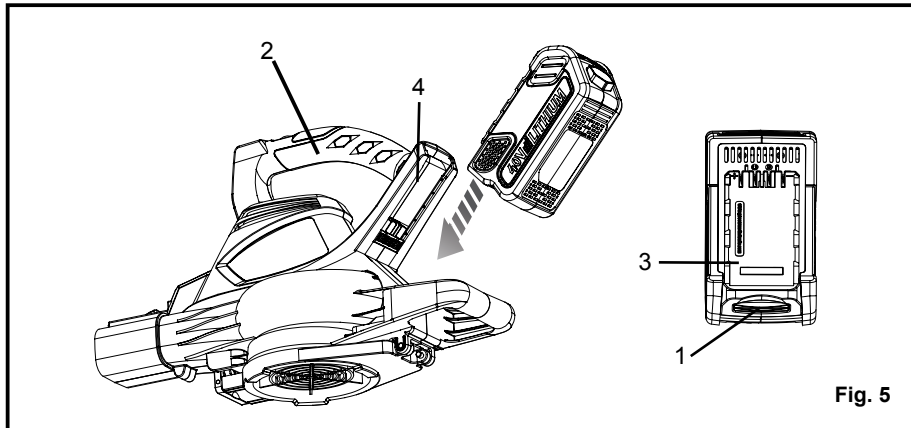

Fig. 5
**To install** (See Figure 5.)
1. Align the tongue (3) of the battery pack with the cavity (4) in the blower housing.
2. Grasp the blower (2) firmly.
**To remove** (See Figure 5.)
1. Press the latch button (1) on the battery pack down and hold.
2. Grasp the blower (2) firmly, and pull the battery pack out of the handle.